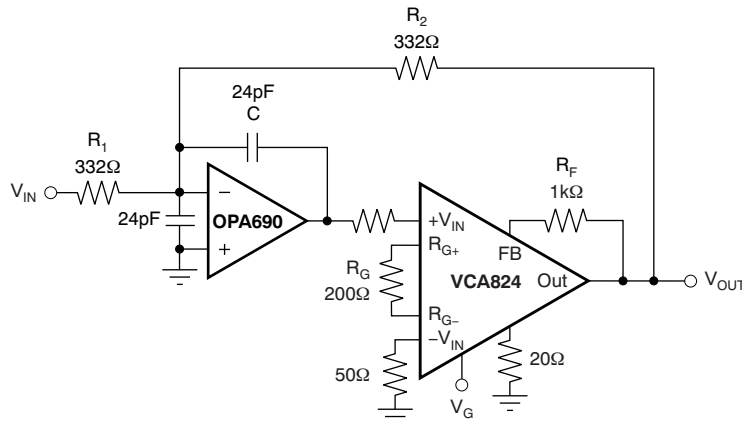

Figure 74. Voltage-Control Low-Pass Filter
In the circuit of Figure 74, the VCA824 serves as the variable-gain element of a voltage-controlled low-pass filter. This section discusses how this implementation expands the circuit voltage swing capability over that normally achieved with the equivalent multiplier implementation. The circuit control voltage, V_G , is calculated as according to the simplified relationship described in Equation 6.
Because the VCA824 is most linear in the midrange, the median of the adjustable pole should be set at $V_G = 0V$ (see Figure 13, Figure 33, Figure 54, and Equation 8). Selecting $R_1 = R_2 = 332\Omega$, and targeting a median frequency of 10MHz, the capacitance (C) is 24pF. Because the OPA690 was selected for the circuit of Figure 74, and in order to limit peaking in the OPA690 frequency response, a capacitor equal to C was added on the inverting mode to ground. This architecture has the effect of setting the high-frequency noise gain of the OPA690 to 2V/V, ensuring stability and providing flat frequency response.